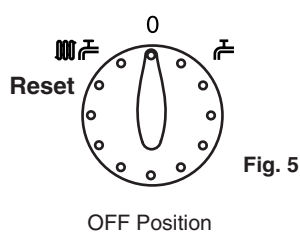

Fig. 5
2. Turn the On/Off/Reset selector switch either anti-clockwise from the off position (Fig. 5) to both central heating and domestic hot water or clockwise to domestic hot water only.